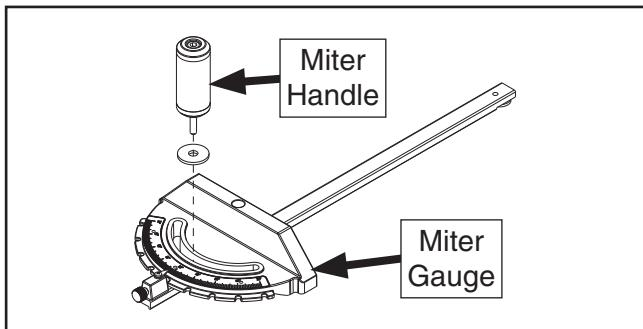

Figure 34. Installing miter handle.
35. Install miter handle and 6 x 20mm flat washer into miter gauge (see **Figure 34**).